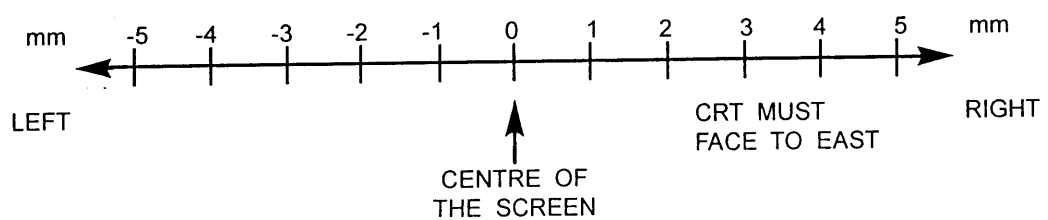

FIG. 13
4. Adjust VR102 to obtain the picture at centre. (specification show as below Fig.13)